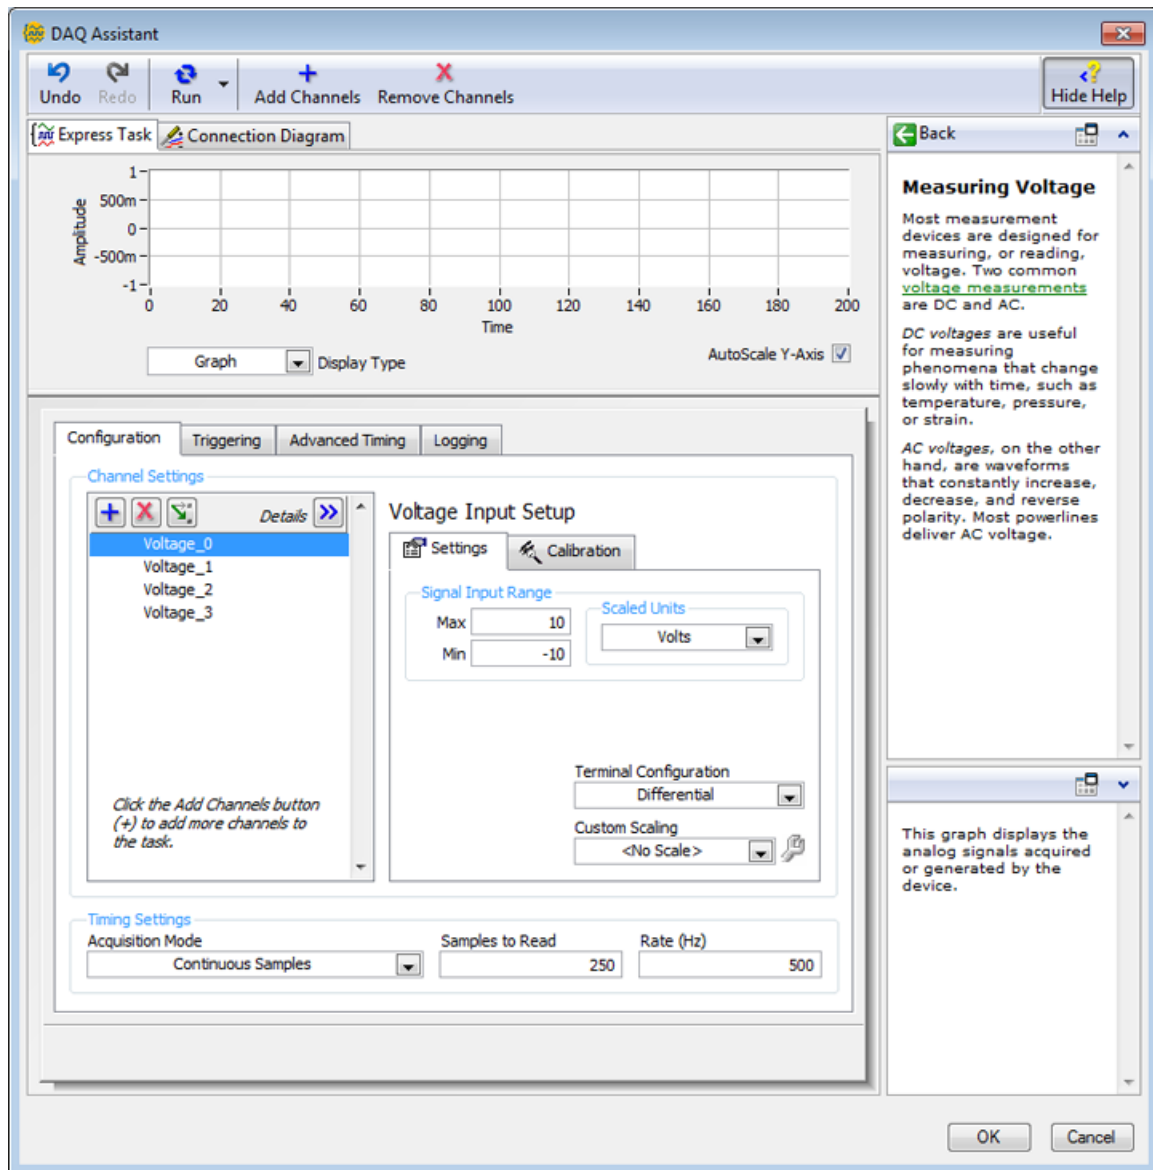

Figure 3. DAQ Assistant Configuration
7. Define the measurement settings, as shown in Figure 3.